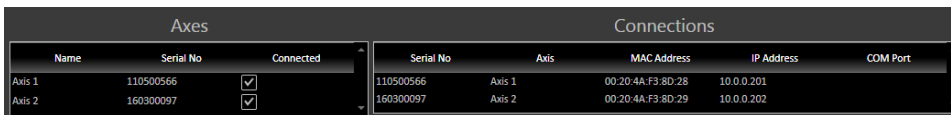

Figure 5: Connections Manager
- The Connections Manager window should look similar to Figure 5.